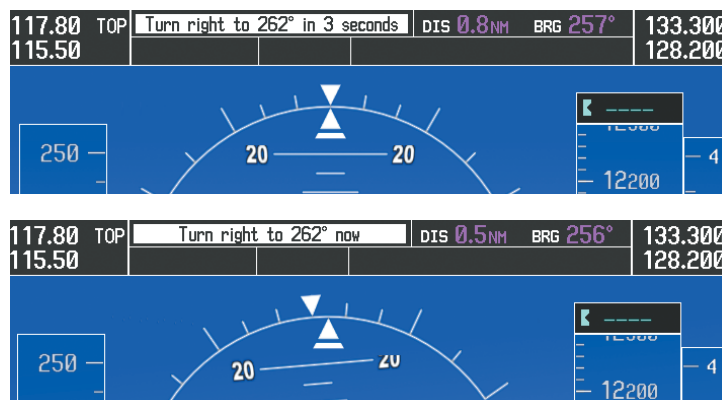

Figure 5-117 Turn to Intercept V244
- 8) At SLN, Victor Airway 244 (V244) is intercepted. Turn prompts are displayed in the PFD Navigation Status Box as seen in Figure 5-117.